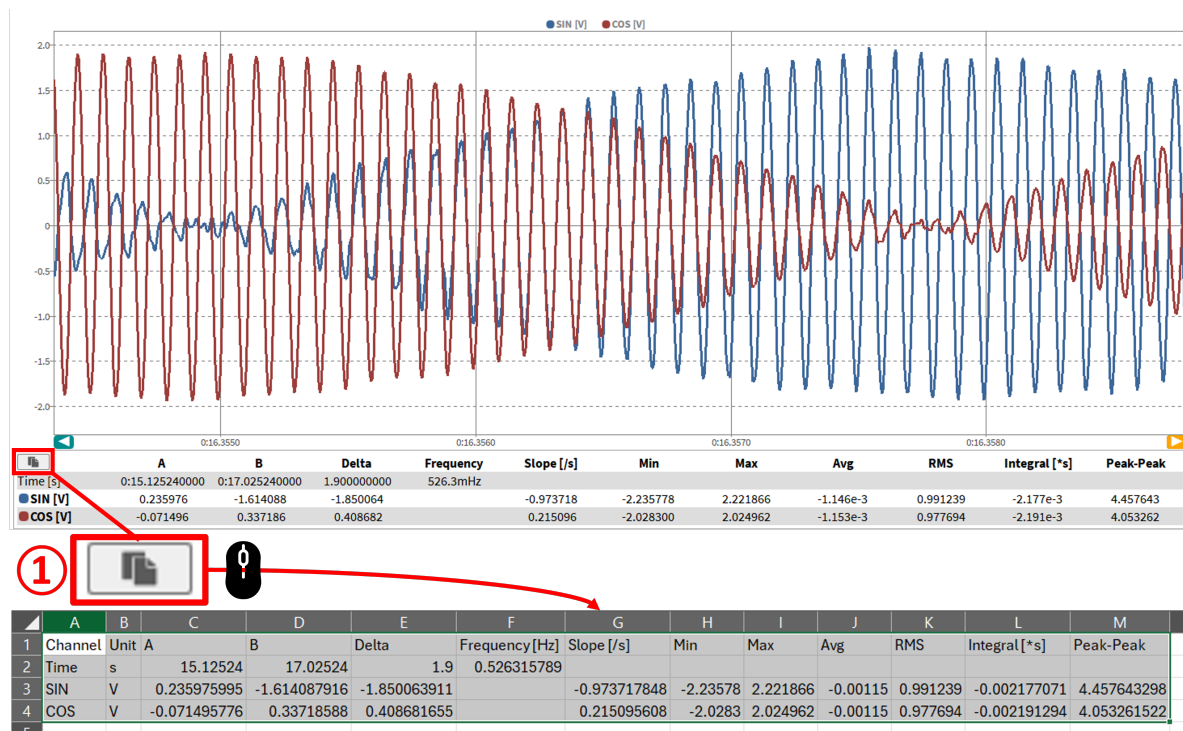

Fig. 8.34: Copy cursor values to clipboard
It is also possible to copy the displayed cursor values directly from the instrument in use to the clipboard and paste them into an Excel file or a simple text file, for example. To do this, simply click on the copy button displayed on the left above the table of cursor values (see ① in Fig. 8.34) or you can simply click in the instrument with the left mouse button and copy the values with the key combination “CTRL + C”.